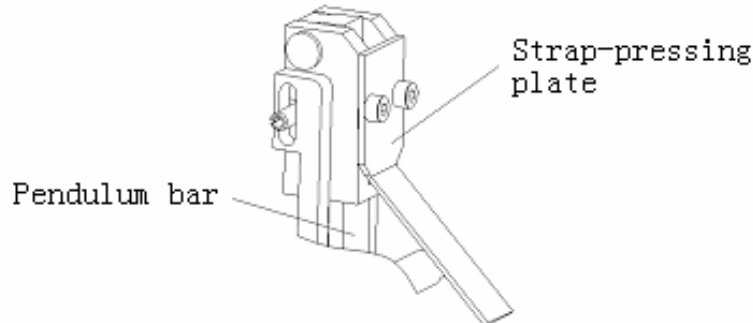

Fig5-4
- e. Strap-pressing plate is too low (See Fig5-4): Strap-pressing plate is set for convenient